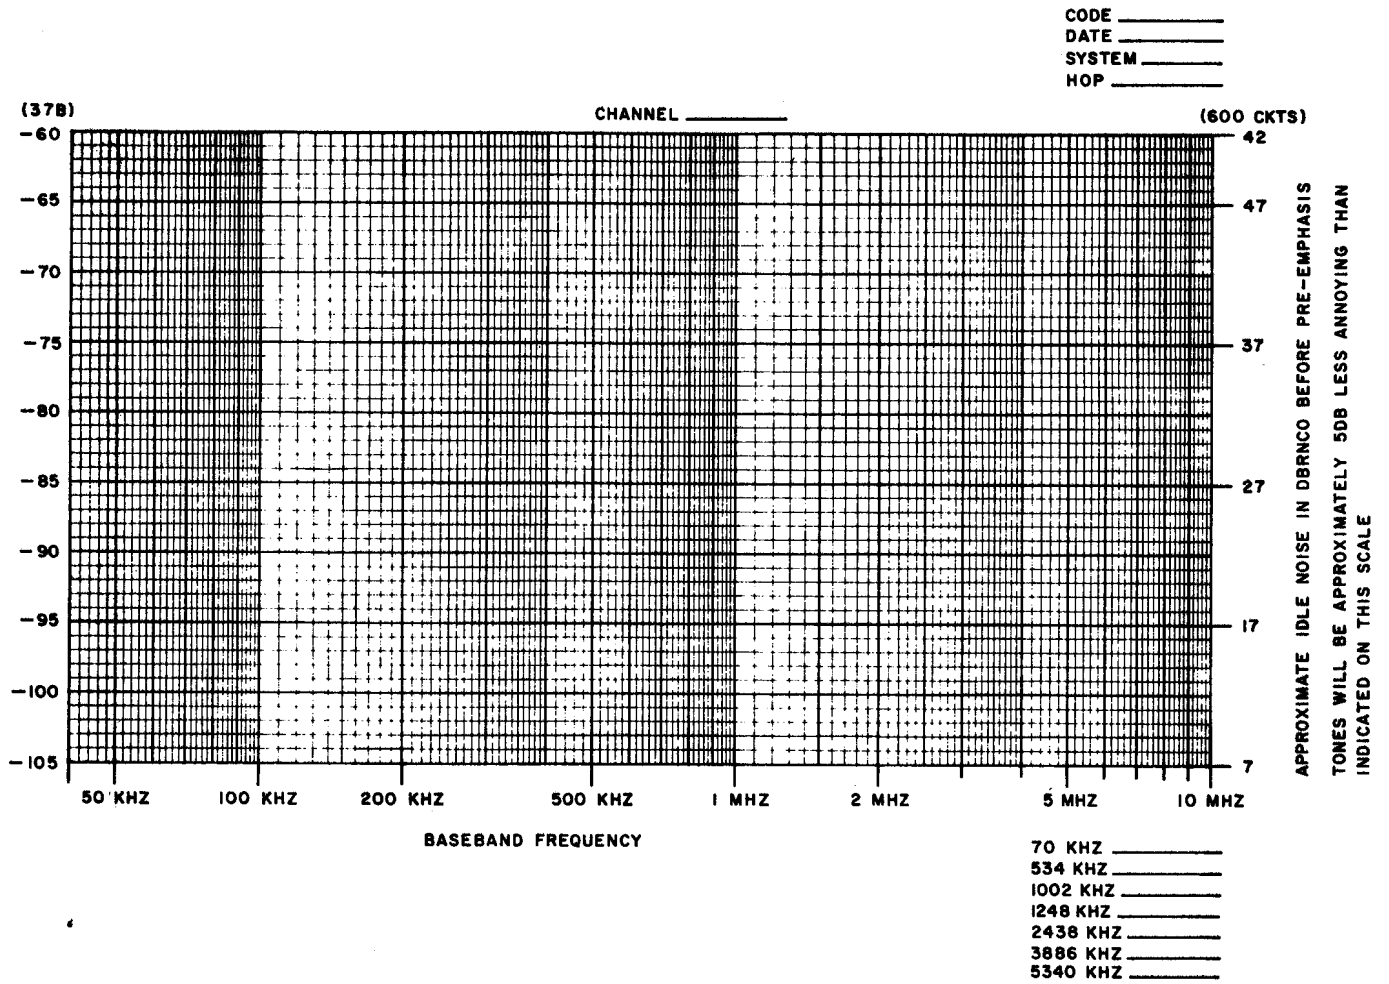

Fig. 2—Idle Noise Report
- 3 Starting at 50 kHz, tune the 37B TMS upward in frequency using the frequency control switches and the continuous tuning knob to cover all frequencies in the 50-kHz to 8-MHz region. Use a headset to monitor the output and tune slowly to avoid skipping isolated tones. Record the resulting noise power point-by-point on a chart similar to Fig. 2. In the regions where smooth or hissing noise is heard in the earphone, record only enough points to permit a smooth curve to be drawn. Where clean clear tones are heard, draw